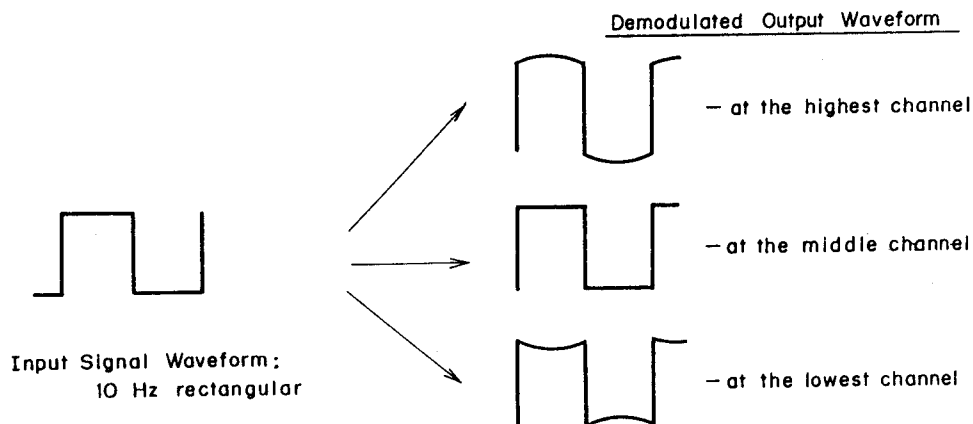

Figure 4 - Typical Rectangular Waveform of Demodulated Output
3. Change the signal to a 10 Hz rectangular waveform signal. Then, the demodulated output from the modulation analyzer should look like Figure 6. If the level adjustments under steps 1 and 2 are out of balance, the rectangular waveform will be distorted (refer to Figure 4).